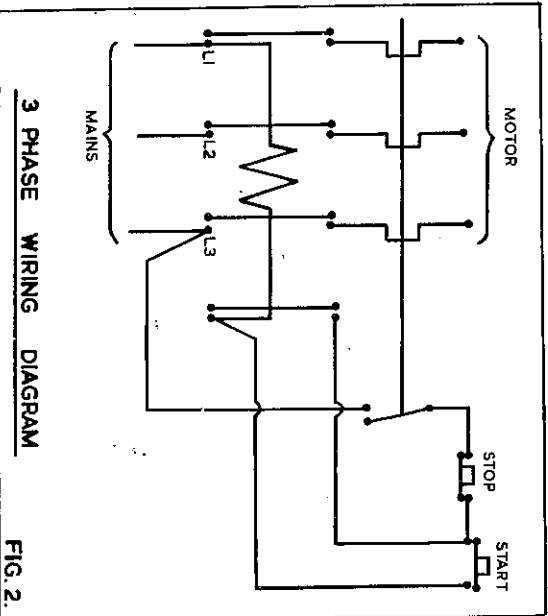
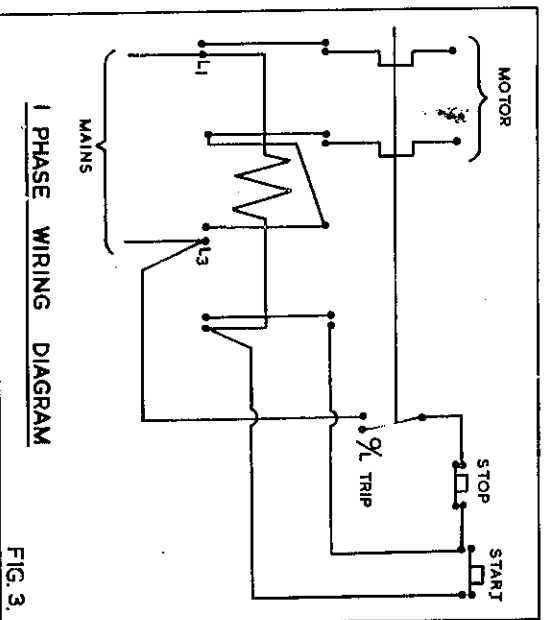

FIG. 2.
FIG. 3.
4. Connect the line leads to the appropriate terminals. See Fig 2 for 3 phase supply and Fig. 3 for 1 phase supply.